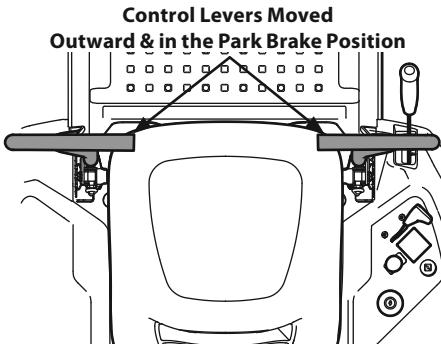

Figure 23
- Operator should be sitting in the tractor seat with the lapbar drive control levers fully out and in the park position. See Figure 23. Refer to Practice Operation for further instructions.